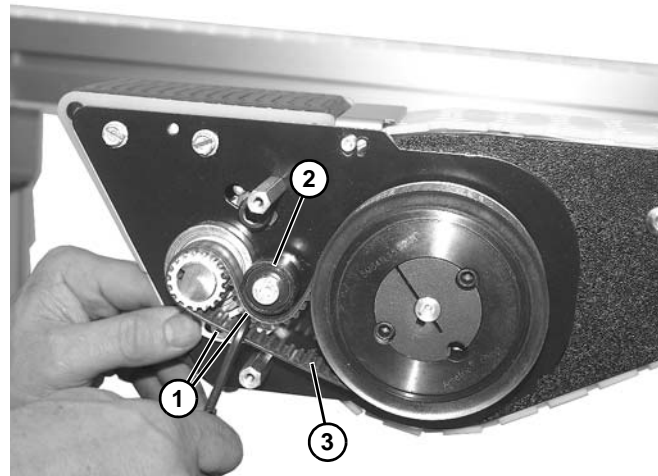

Figure 158
2. Loosen two socket head screws (**Figure 158, item 1**) holding tensioning pulley (**Figure 158, item 2**) onto timing belt (**Figure 158, item 3**).
3. Remove timing belt (**Figure 158, item 3**) from assembly.